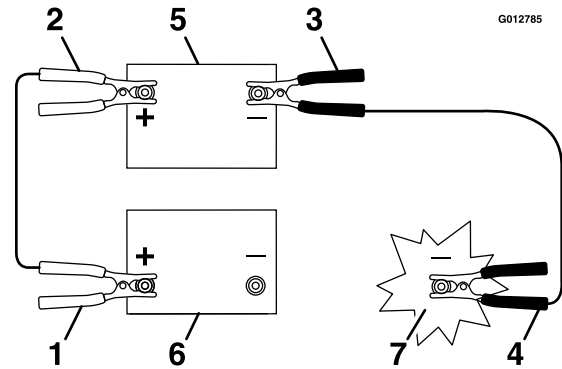

Figure 53
3. Connect the positive (+) cable to the positive (+) terminal of the discharged battery that is wired to the starter or solenoid as shown in Figure 53.